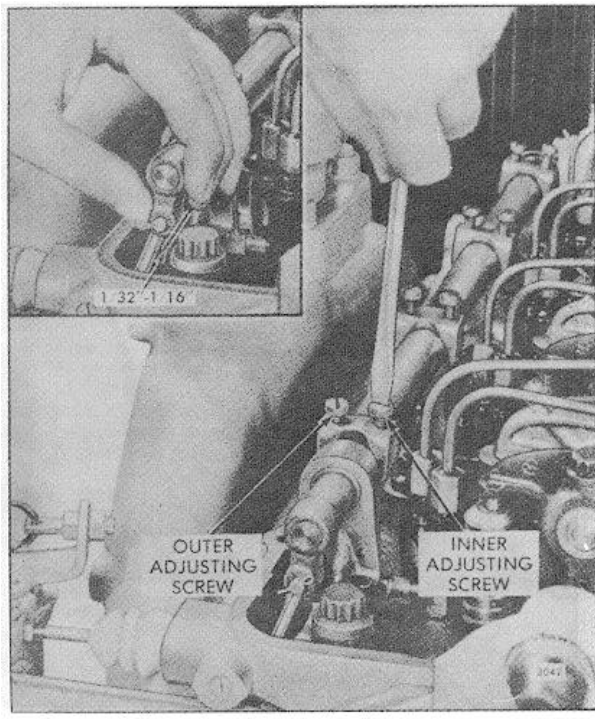

Fig. 3. Adjusting Injector Rack Control Lever Adjusting Screws
5. Adjust the rear cylinder injector rack control lever adjusting screws (Fig. 3) until both screws are equal in height and tight on the injector control tube.